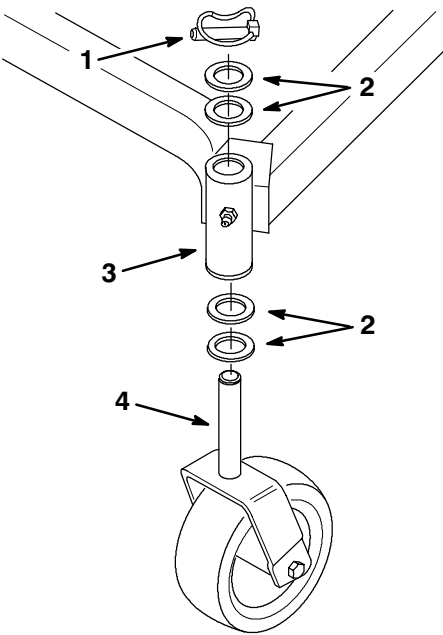

Figure 2
1. Place two (2) thrust washers onto the castor wheel forks (Fig. 2).
2. Insert the castor wheel forks into the carrier frame mounting tubes (Fig. 2).
3. Install two (2) thrust washers onto the castor wheel forks, then secure with linchpins (Fig. 2).